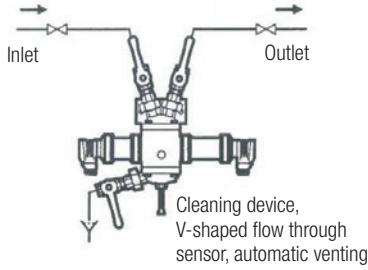

Fig. 6
Install the measuring sensor and route the lines as shown in installation examples **Fig. 6** to **10**.
- Fig. 6** Sensor installed in a sample line, e. g. water treatment, beer filtering, permeate downstream of reverse osmosis.
- Fig. 7** Installation of sensor when the condensate contains suspended solids. If the sensor is installed as shown in **Figs. 6 – 10**, solids could be deposited on the cleaning device and would rapidly scratch the glass cylinder **21** when the push rod is actuated.